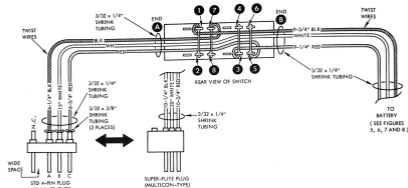

Figure 2. Switch and Plug Wiring
3. Position switch as shown in figure 2. Slide the bare end of the 9-3/4" black wire through terminals ① and ②, and solder wire to both lugs. Be certain wire is connected to correct terminals.
4. In like manner, solder the 6-1/4" black wire to lugs ⑦ and ⑧.
5. Solder 9-1/4" red wire to lugs ③ and ④, and the 6-3/4" red wire to lugs ⑤ and ⑥.
6. Loop the 6-1/4" black wire around lug ⑦ as shown in figure 2, feed the wire under the soldered bars between lugs 1-2 and 7-8, and out end ⑨ of the switch.
7. Loop the other black wire around lug ①, under the soldered bars, and out end ⑩ of switch.
8. Repeat this process, first with the 6-3/4" red wire out end ⑨, then the other red wire out end ⑩.
14. Insert .031" solder into cavity of pin "A" of plug (see figure 2). Apply tip of soldering iron to upper side of pin until solder melts and fills cavity. No overflow, please.
- 25. Position switch as shown in figure 2. Slide 9-3/4" black wire through terminals ① and ②, and solder to both lugs. Be certain wire is fastened to correct terminals.
- 26. Slide end of 9-1/4" red wire through lugs ③ and ④. Solder both. Leave ends of both wires free.
- 29. Working from end ① of switch (figure 2), slide the red, white and black wires on cable lengthwise through slot in switch. All wires must pass under the bars soldered between lugs 1-2 and 3-4, until red wire extends beyond end ⑧ of switch.
- 30. Bend end of cable red wire around and pass it through lugs ⑤ and ⑥. Solder to both lugs, taking extreme care that insulation on cable wires passing through switch slot is not heated or melted.
- 31. Pull on cable to remove wire slack. Red wire should bend tightly around lug ⑤.
32. With needle-nose pliers, pull cable black wire out of slot, bend wire as shown in figure 2, pass it through lugs ① and ②, and solder in place. Be careful to avoid heat damage to insulation.
33. Bend 9-3/4" black wire around lug ①, slide it under the soldered bars as shown, and out through end ③ of the switch.
34. Likewise, slide 9-1/4" red wire around lug ②, under the bars, and out end ④ of switch. Dress wires as shown.
35. Twist the three wires from end ⑤ of switch to form a smooth, neat cable.
37. Shrink the tubing into place on cable as shown in figures 2 and 9. Locate tubing on cable end to fit battery being used (figures 5, 6, 7 or 8).